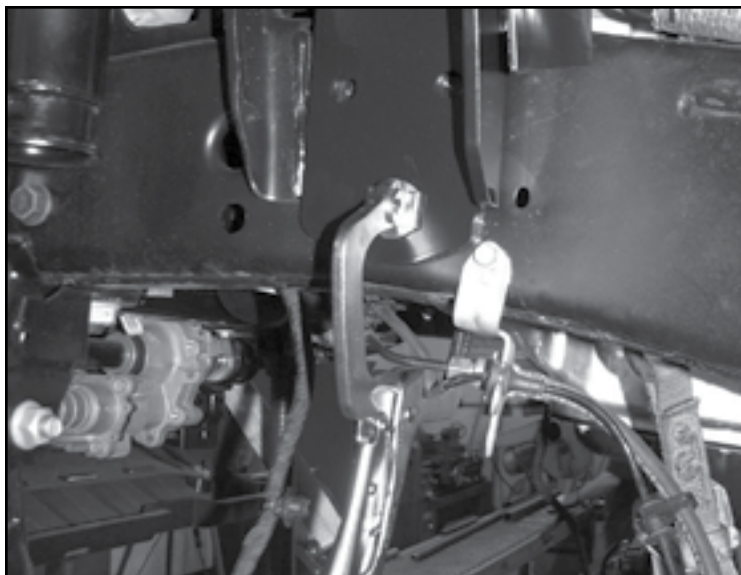

**FIGURE 11 - STEP 10**
10. Using a drill and 3/8" bit. Drill out the existing hole on the coil bucket. **SEE FIGURE 11**